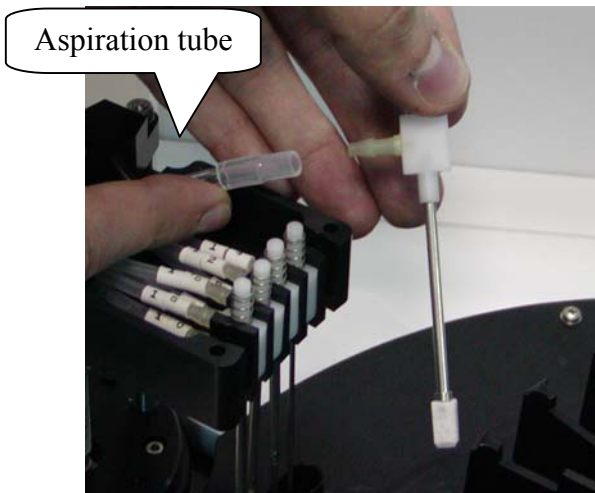
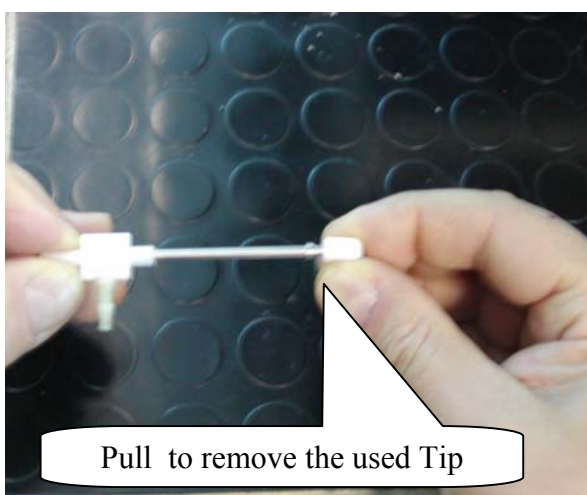

Fig. 4
Fig. 8
5. Disconnect the aspiration tube (Fig. 4).
5. Disconnect the aspiration tube (Fig. 4), remove the used Tip and replace it with a new one. Press lightly to push the new Tip into place – be careful to not press too hard as this could deform the Tip (Fig. 8).